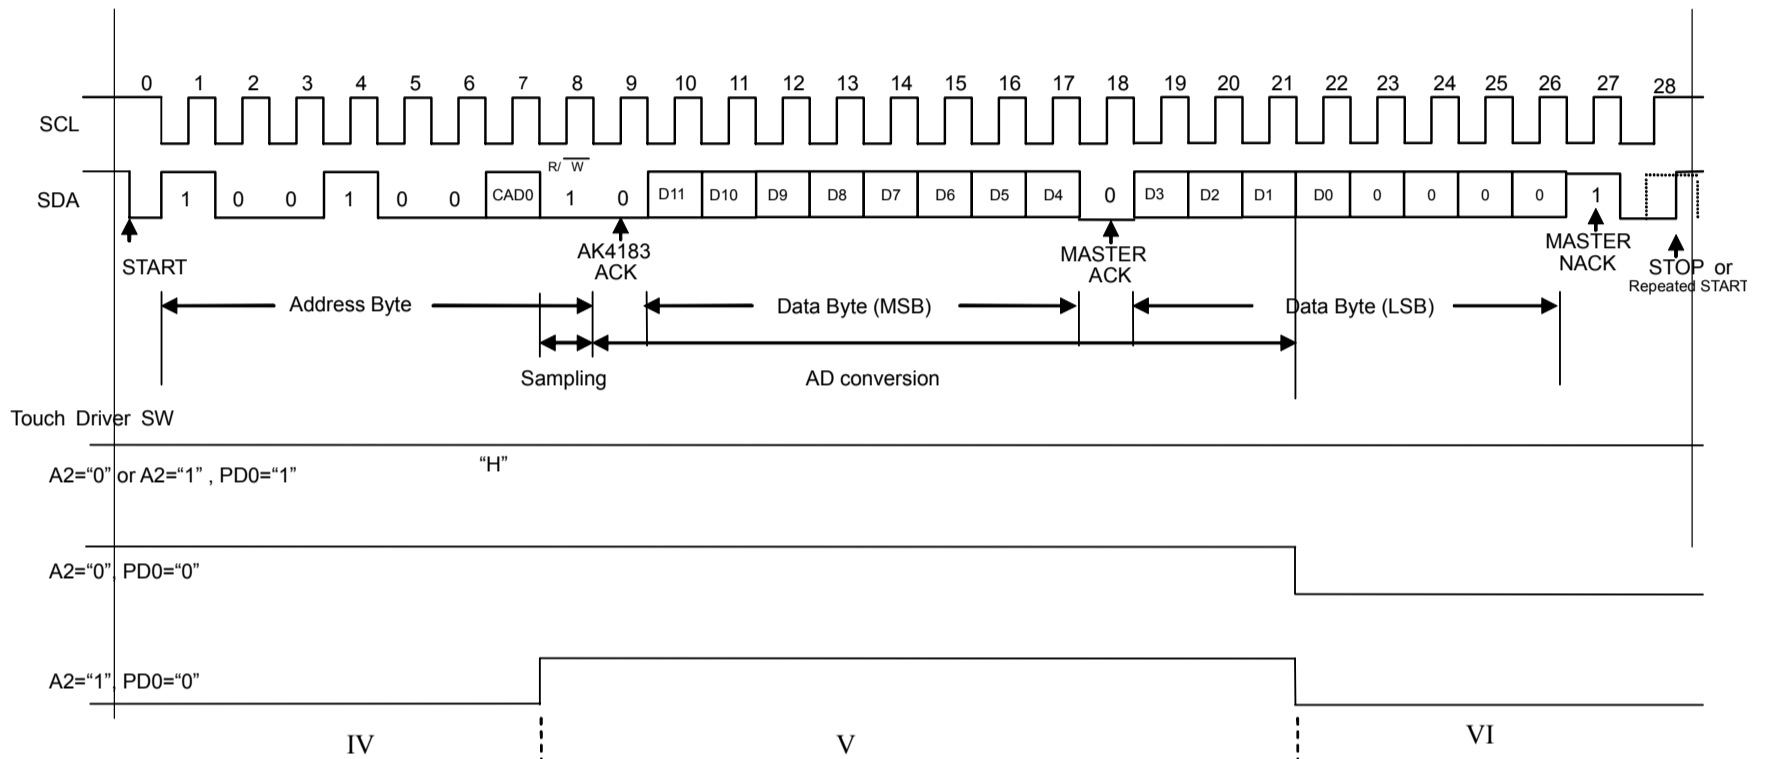

Figure 14 Read data Sequence
■ READ Operation Sequence (Figure 14)
The AK4183 has a pen-interrupt function to detect the pen touch on the touch panel. This function will use as the interrupt of the microprocessor. Pen interrupt function is enabled at power-down state. YN driver is on and this pin is connected to GND at the power down state. And XP pin is pulled up via an internal resistor (R_i), typically $10k\Omega$. If the touch plate is touched by pen or stylus, the current flows via $\langle VCC \rangle - \langle R_i \rangle - \langle XP \rangle - \langle \text{the plates} \rangle - \langle YN \rangle - \langle GND \rangle$. The resistance of the plate is generally $1k\Omega$ or less, PENIRQN pin is force to “L” level. If the pen is released, PENIRQN returns “H” level because two plates are disconnected, and the current does not flow via two plates. The transition of PENIRQN is related to PD0 bit. PD0 bit is updated as shown below. (Please see “power-down control” for the detail. Once the control command with PD0= “1” is sent the pen-interrupt function is disabled. The clock number under the write and the read operation refer to Figure 13 and Figure 14.